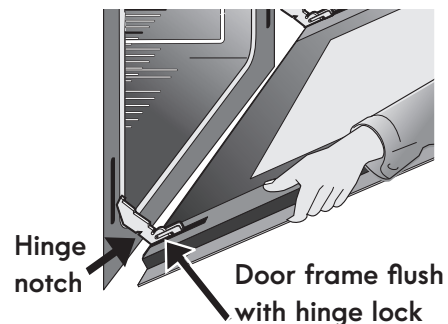

Figure 9: Remove door position
4. Pull the bottom of the door toward you while rotating the top of the door toward the appliance to completely disengage the hinge levers (Figure 9).
1. Firmly grasp both sides of oven door along the door sides. Do not use the oven door handle (Figure 9).
2. Hold the oven door at the same angle as the removal position. Carefully insert the hinge levers into the oven frame until you feel the hinge levers are seated into the hinge notches. The hinge arms must be fully seated into the hinge notches before the oven door can be fully opened. (Figure 9).